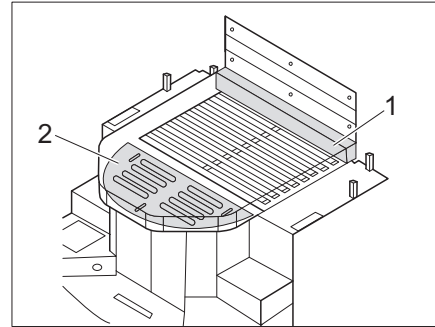

Fig. 175 Bed with mattress extension (with additional mattress and pull-out base)
- Place additional mattress (Fig. 175,1) on the front side of the queen bed.
- Pull out the pull-out base (Fig. 175,2).